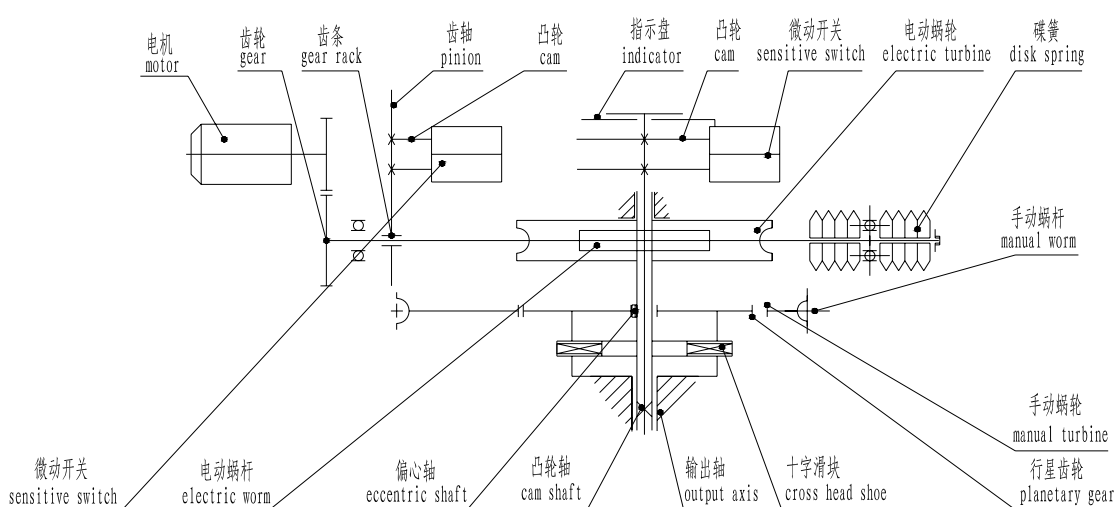

图 1 Figure 1
4.1 Q 型电动执行机构由阀门专用电机、减速器、行程控制器、力矩控制器、开度指示器、手轮、机械限位机构等组成。隔爆型是在户外型的基础上增加了隔爆面，采用了隔爆接线盒和隔爆型电动机。Q 型的传动原理见图 1。
Q type electric actuator is consisted of motor special for motor, speed reducer, motion controller, torque controller, opening position indicator, hand wheel, mechanical limit, and so on. The explosion-proof type has the additional explosion-proof surface on the basis of outdoor type, and applies explosion-proof type connecting box and explosion-proof motor. The transmission principal for Q type is shown on Figure 1.